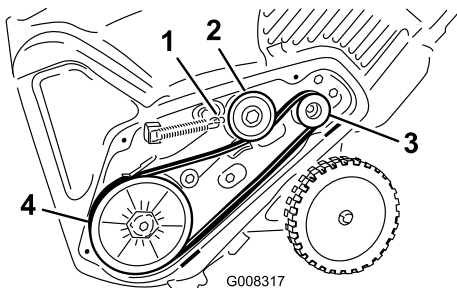

Figure 27
5. Install the new drive belt, routing it as shown in Figure 27.
8. Install the brake spring onto the idler arm (Figure 27).